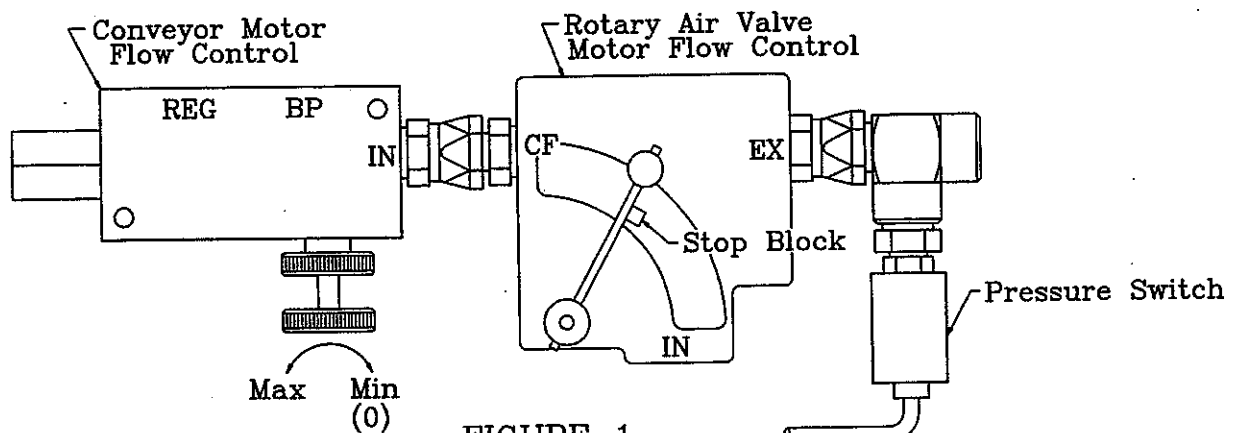
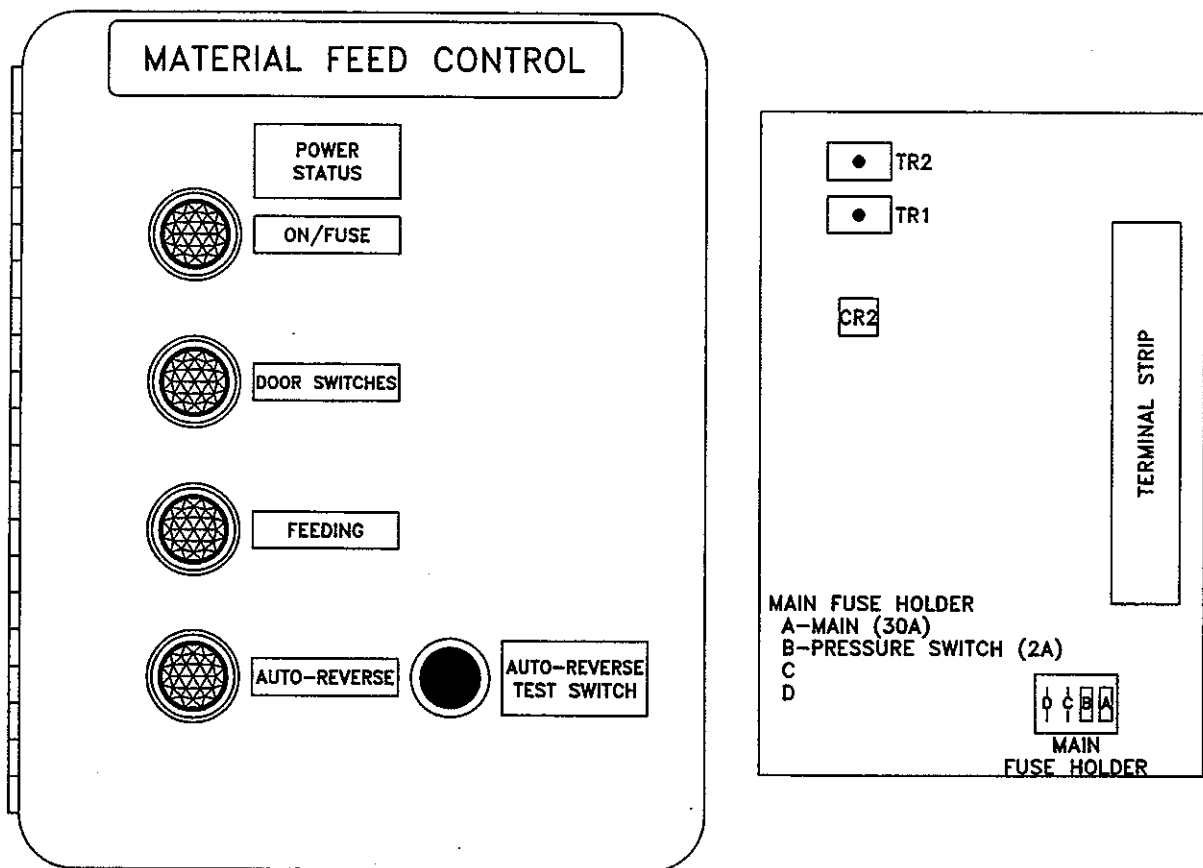

FIGURE 1
Figure 2
Oil flowing through the valve in the "forward" direction is directed to two (2) flow control valves located in front of the rotary air valve. The valves divide the oil flow between the rotary air valve motor and the conveyor motors. The flow controls are adjustable, allowing the speeds of the motors to be adjusted, or completely stopped. Air valve rotor speed and maximum conveyor speed are adjusted via a lever control with a set screw knob that rotates on a 90° quadrant. This lever is located on the valve on the right in figure 1, and should be set up against the stop block as shown. The flow control on the left in figure 1 controls the conveyor speed from zero to maximum, by turning the knob. Turning the knob counter clockwise increases conveyor speed and the amount of material delivered to the rotary air valve. Oil flowing through the solenoid valve in the "reverse" direction is channeled directly to the rotary air valve motor, with no oil going to the conveyor motor(s). Thus anytime the rotary air valve is in "reverse", the conveyors do not feed material. Oil leaving the solenoid valve passes through the oil cooler and return filter (10 micron) prior to entering the reservoir.
When the "start" button is pushed, the CR2 relay in figure 2 is energized which in turn energizes the "forward" solenoid on the solenoid valve, starting the air lock and conveyors. As monitored by a pressure switch located on the "EX" port of the hydraulic speed control (see figure 1). The switch is normally open, closing when the rotary air valve motor stalls, causing high pressure due to the air valve encountering an object it can not cut. The amount of time the pressure switch is closed is monitored by the relay TR1 in figure 2. If the switch remains closed for more than 0.5 seconds, TR1 energizes timer relay TR2. TR2 automatically reverses the rotary air valve by energizing the "reverse" solenoid and de-energizing the "forward" solenoid. The unit will remain in "reverse" until TR2 times out, which is approximately 2 seconds.
### AEM 2000 with Power Status Lights: (See Figure 2)
This hydraulic valve is located just inside the right side of the frame in front of the rotary air valve (see figure 1). It is a rectangular block with a screw knob adjustment pointing toward the engine. Screwing the knob clockwise decreases the conveyor speed thus decreasing the amount of material delivered to the rotary air valve, while turning the knob counter-clockwise increases the amount of material delivered to the rotary air valve.
This switch is the interlock between the hydraulic system and the electrical control system. The switch is normally open. It closes when the rotary air valve motor hydraulic pressure reaches the switch setting causing the motor to automatically reverse. (Note: The conveyor and elevator stop whenever the switch closes.) The switch is located on the "EX" port of the screw conveyor speed control (see figure 1), pointing down in front of the large frame angle. Two different types of pressure switches have been used. The first consists of a brass mounting base (screwed into the hydraulics) and a black cap (connected to the electrical control system). The black cap can be turned clockwise to decrease the pressure setting. The second is all brass with a sliding collar. Sliding the collar toward the wires reveals a slotted cylinder which adjusts the switch setting. Using a small screw driver, adjust the cylinder the same way as the black knob on the previously described switch.
When the pressure switch closes due to high pressure, a series of relays is triggered in the electrical control system automatically reversing the rotary air valve, and stopping the screw conveyor and elevator. The length of time the system remains in reverse is determined by the setting on the timer relay TR2 (see figure 2). This relay is located inside the electrical control box labeled "MATERIAL FEED CONTROL". It is toward the top of the box having a digital dial graduated 0-6 seconds, indicating the approximate length of time the reverse cycle will last. Optimum setting is 2 seconds.